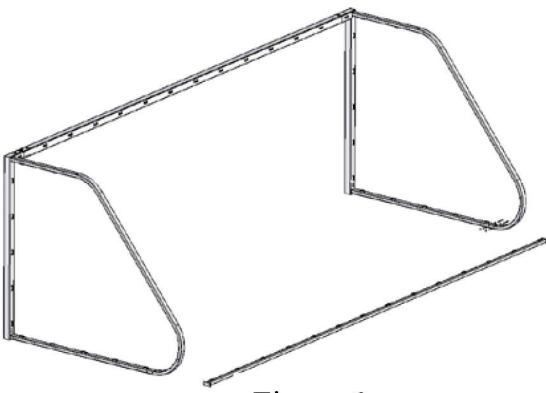

Figure 6
6. Before attaching the ground bar to the goal, carefully flip the goal into the proper position by lifting up on both ends of the crossbar. Place the ground bar between the two end frames (Fig. 6).